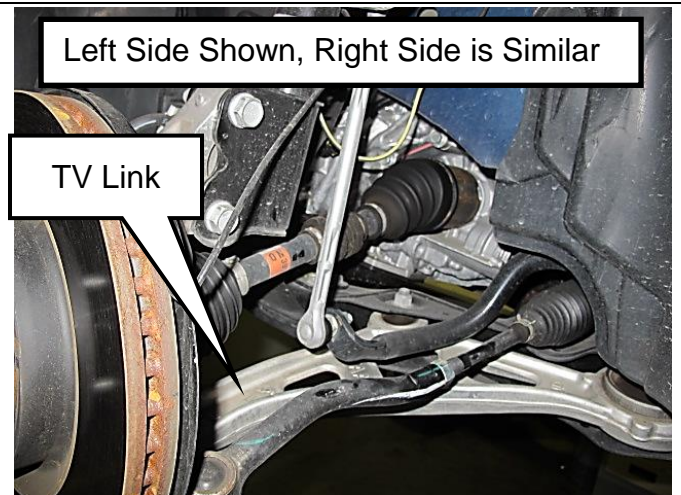

Figure 3
3. Locate Transverse (TV) Link on both the LH and RH sides of the vehicle. (Figure 3)